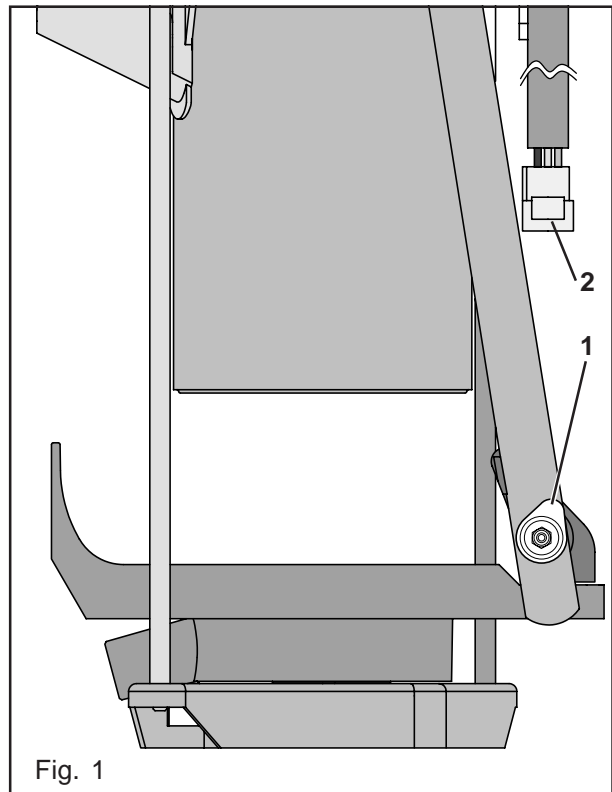

Fig. 1
Legend for fig. 1:
- When mounting, the guiding lugs (1) have to point towards the brewer's fastening holes and the cable harness (2). (Fig. 1)